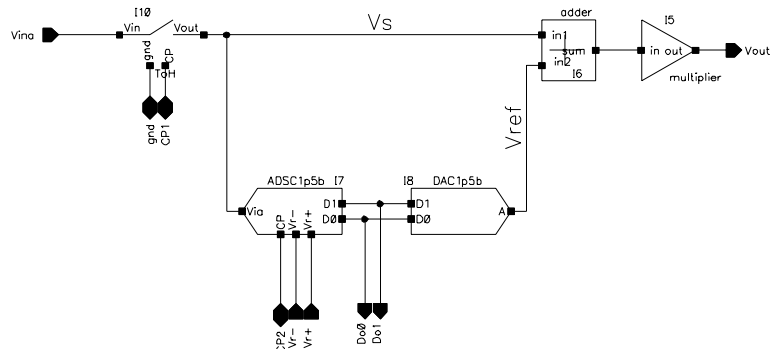

Figure 11. The 1.5-bit pipeline stage, PipeStage.
A pipeline ADC consists of a series of pipeline stages. In the tracking phase, each stage tracks its input signal. A digital approximation of the input signal is made using a 1.5-bit A/D sub-converter (**ADSC1p5Bit**). Thereafter the digital approximation is converted back to analog form by a DAC (**DAC1p5Bit**), and subtracted from the held input signal to form the quantization error (residue) signal for the next stage. To regain the full signal amplitude, the residue voltage is amplified by two. A block schematic of a pipeline stage is shown in Figure 11.
- Open the **schematic** view of the pipeline stage **PipeStage**. Instantiate all the required blocks and arrange them as in Figure 11. Connect the pins. Save and close the schematic.